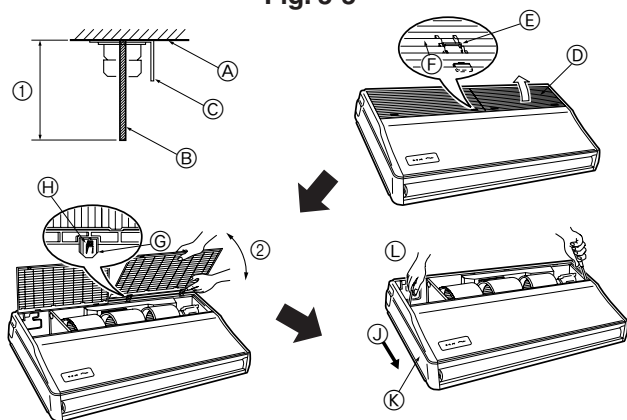

Fig. 3-4
3.2.4. Indoor unit preparation (Fig. 3-4)